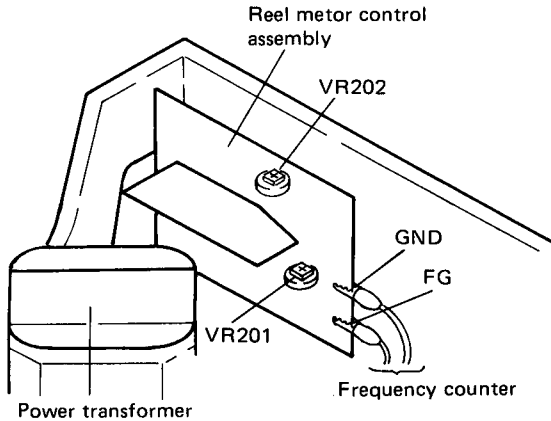

Fig. 4-5 FF/REW Rotating speed adjustment
1. Connect the frequency counter between FG of reel motor control assembly and GND (Fig. 4-5).
3. Adjust VR201 so that the take-up torque is  $45 \pm 5 \text{ g-cm}$  (Fig. 4-5).